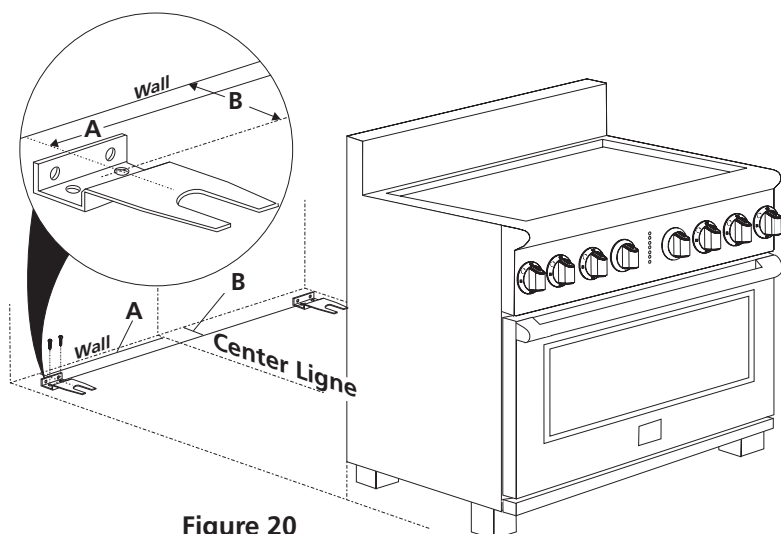

Figure 20
installed. (Use the diagram in figure 20 to locate bracket if template is not available.)
5. Remove template and place bracket on floor (see figure 20). Line up holes in bracket with marks on floor and attach the bracket using the screws provided. Brackets must be secured to solid floor. If attaching to concrete floor, first drill 3/16" (4.8 mm) dia. pilot holes using a masonry drill bit.